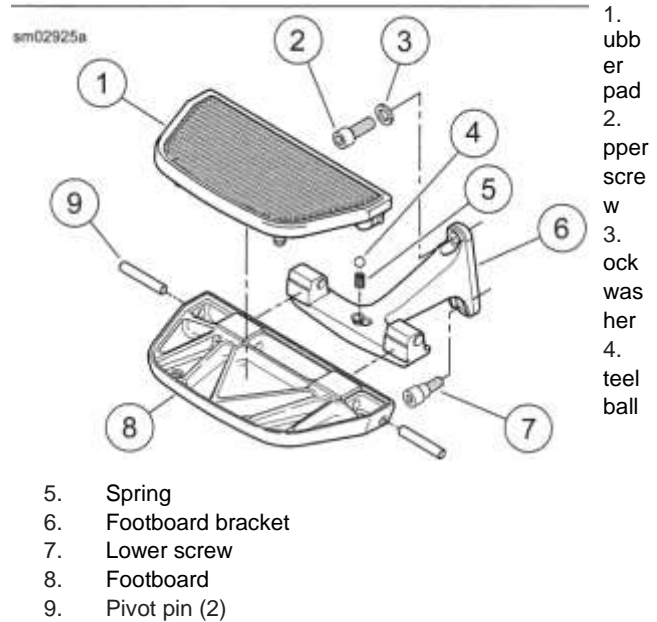

Figure 3-167. Passenger Footboard
- See Figure 3-167. Remove screw (2), lockwasher (3), screw (7) and footboard/bracket assembly from frame.
- See Figure 3-167. Secure bracket (6) with screw (2), lockwasher (3) and screw (7). Tighten.
1. See Figure 3-167. Remove rubber pad (1).
2. Tap two pivot pins (9) toward center of footboard (8) and remove.
3. Remove footboard (8) from footboard bracket (6).
4. Remove steel ball (4) and spring (5).
1. See Figure 3-167. Place spring (5) and steel ball (4) into hole in footboard bracket (6).
2. Position footboard (8) on footboard bracket (6) and install pivot pin (9) as shown.
3. Install **new** rubber pad (1).
- a. Moisten rubber beads on rubber pad (1) with soapy water.
- b. Position rubber pad (1) on footboard (8).
- c. Pull rubber beads on inboard corners of rubber pad (1) through holes in footboard (8).